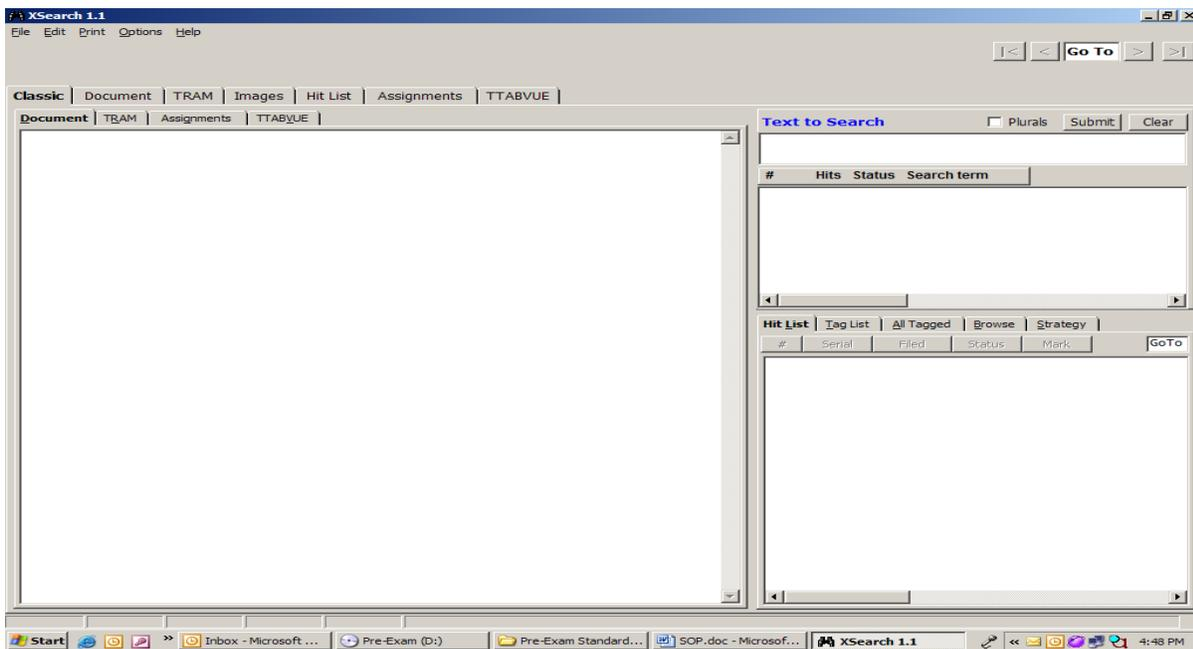

Figure 1-29: The X-Search Text to Search Field
Step 3: Re–enter the serial number in the “Text to Search box” (Figure 1-29).
Step 4: Snapshot below indicates the file has been uploaded and the likelihood of how many files are similar in nature (Figure 1-29).